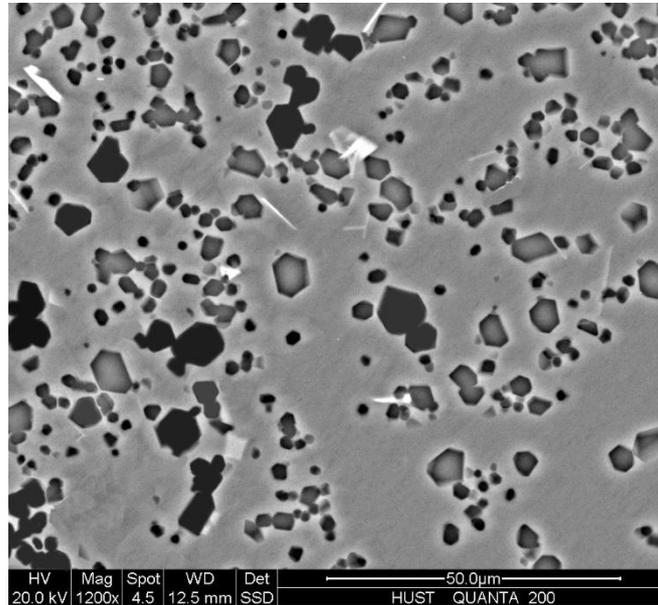

Figure S3. The processed image used for measurement.
- The large-sized  $Mg_2Si$  phase has a darker black edge and a lighter gray center, as shown in Figure S2, which is inconvenient to extract the outline of the  $Mg_2Si$  phase during the measurement. Therefore, we used photoshop to adjust the color of these areas for the subsequent measurement. In addition, other areas in the image that would affect the identification of the  $Mg_2Si$  phase also need to be processed. The processed image is shown in Figure S3.